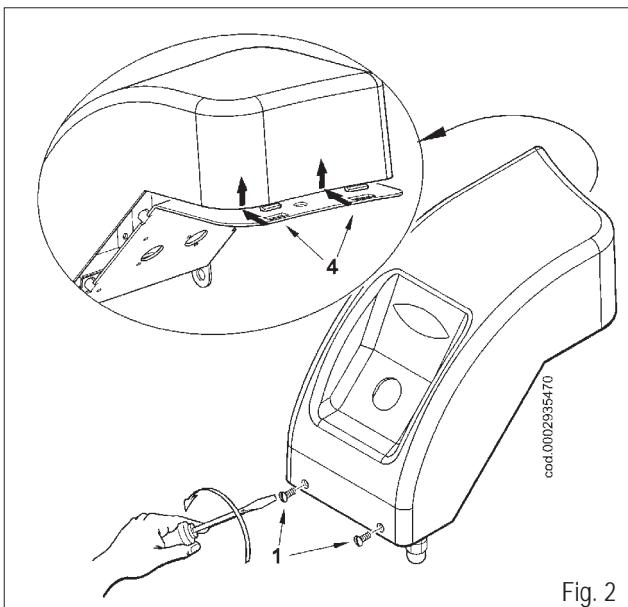

Fig. 2
- 3) Now remove the 4 nuts (5) in figure 2, disassemble the flame pipe (6) and, after having unscrewed the lung (7) from the relative stud bolts, reposition them with the threaded connection for fixing the gas train upwards.
- 4) To complete the operation fix the flame pipe (6) and the lung (7) with the 4 nuts (5), finally reposition the mixing unit in the relative housing.
- 2) To reach the electrical components, loosen the two screws (1), gently pull back the cover to detach it from the electrical panel base (fig. 2) then lift it up.